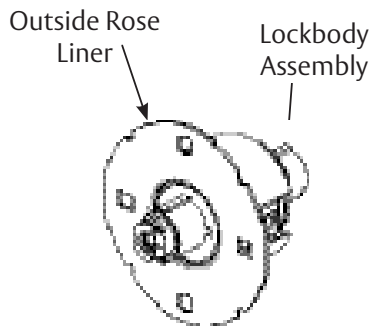

Figure 5
1. Remove outside spring housing from lockbody assembly. (Figure 5)